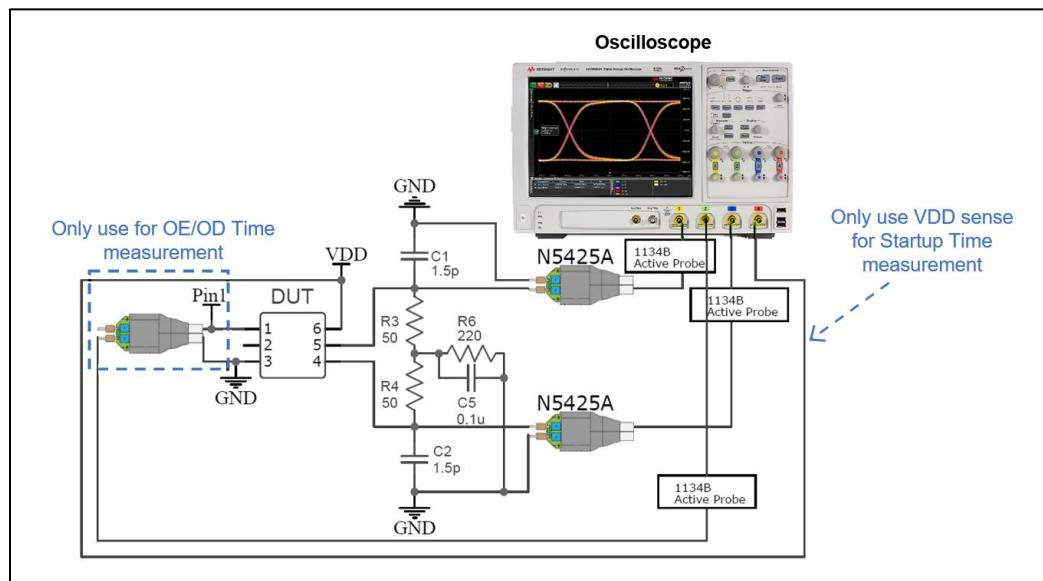

Figure 12. Test setup to measure FlexSwing Waveform Characteristics, Current Consumption[18], Output Enable/Disable Time, and Startup Time
15. See Figure 12 for the test setup to measure LVPECL Current Consumption with Termination 1 or without Termination.